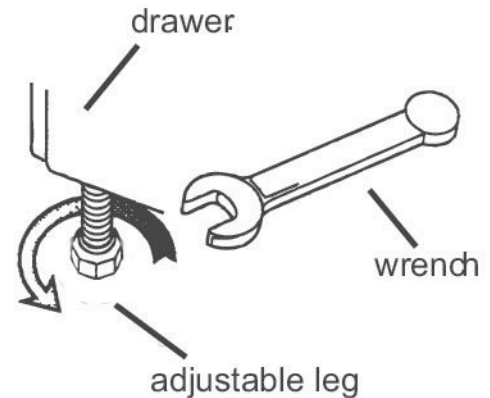

Figure 6: Adjusting range height
10. To avoid scratching the countertop, check and, if necessary, adjust the height of the range by adjusting the range feet (see Figure 6: Adjusting range height).